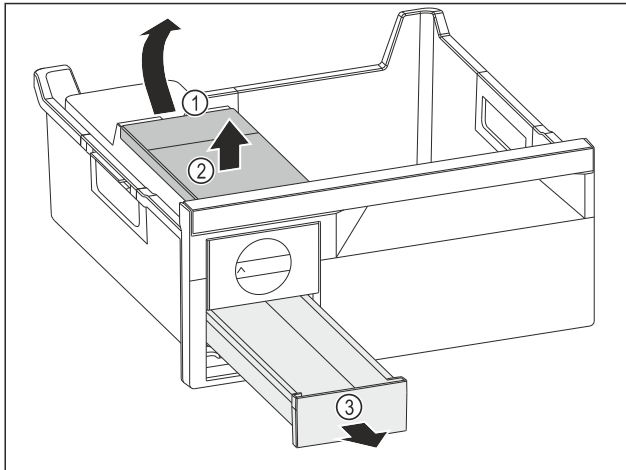

Fig. 135
- ▶ Removing the water tank: Lift the water tank by the recess Fig. 135 (1).
- ▶ Remove the water tank Fig. 135 (2) upwards.
- ▶ Remove the ice cube drawer Fig. 135 (3) to the front.